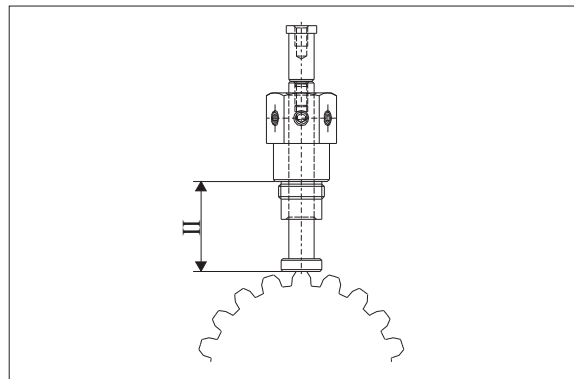

Figure 378
- (3) Turn out the plug gauge and determine Dimension II (also see figure 378).